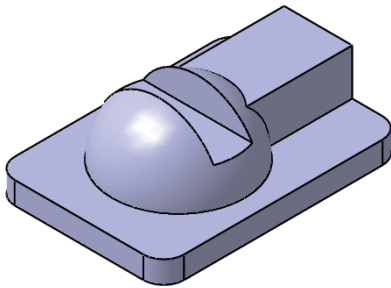
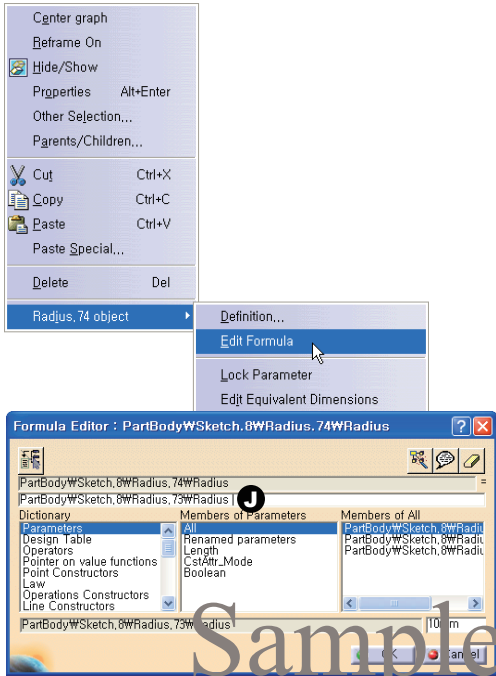

Fig 6-45 Pocket Feature
Fig 6-47 Applying Formula
Fig 6-45 shows the model at this point.
7. Select the dimension **B** in Fig 6-45. The selected dimension variable appears in the input area **J** in Fig 6-47.